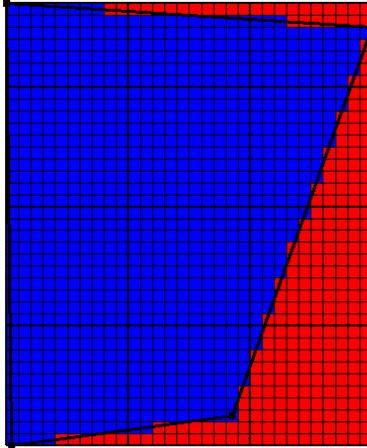

Figure 54. Active data set in the top layer of the Biscayne Bay aquifer model.
22. After clicking **OK** to close the **Data Sets** dialog box, double click on the “Domain_Outline” object. In the **Object Properties** dialog box, check **Set values of enclosed elements**, and change **Higher Z-Coordinate** to 9 and **Lower Z-Coordinate** to -271. On the **Data Sets** tab, check the **Affects** checkbox for **Active** and click once in the **Formula** cell of the table for the **Active** data set. A button labeled **F()** will appear. Click it to display the **Formula Editor**. Change the formula to “ $Z > \text{Lower_Aquifer_Bottom}$.” (Z is found under **Functions|GIS** and **Lower_Aquifer_Bottom** is found under **Data Sets**.) This formula will evaluate to True for all elements whose centers are above the bottom of the lower aquifer. Click **OK** to close the **Formula Editor** and **OK** again to close the **Object Properties** dialog box. To check whether the **Active** data set is being set properly, select **Data|Color Grid...**, select the **Active** data set, and click **OK**. Click on the **Selection cube** for the top view of the model to change the selected layer and see the values of the **Active** data set in each layer (fig. 54). To view the **Active** data set in the 3D view, it is convenient to show only the elements in which **Active** is true. To do so, select **Data|Color Grid...** again, set the lower limit to “True” and click **OK**. Only the elements for which the **Active** data set is true will be colored.